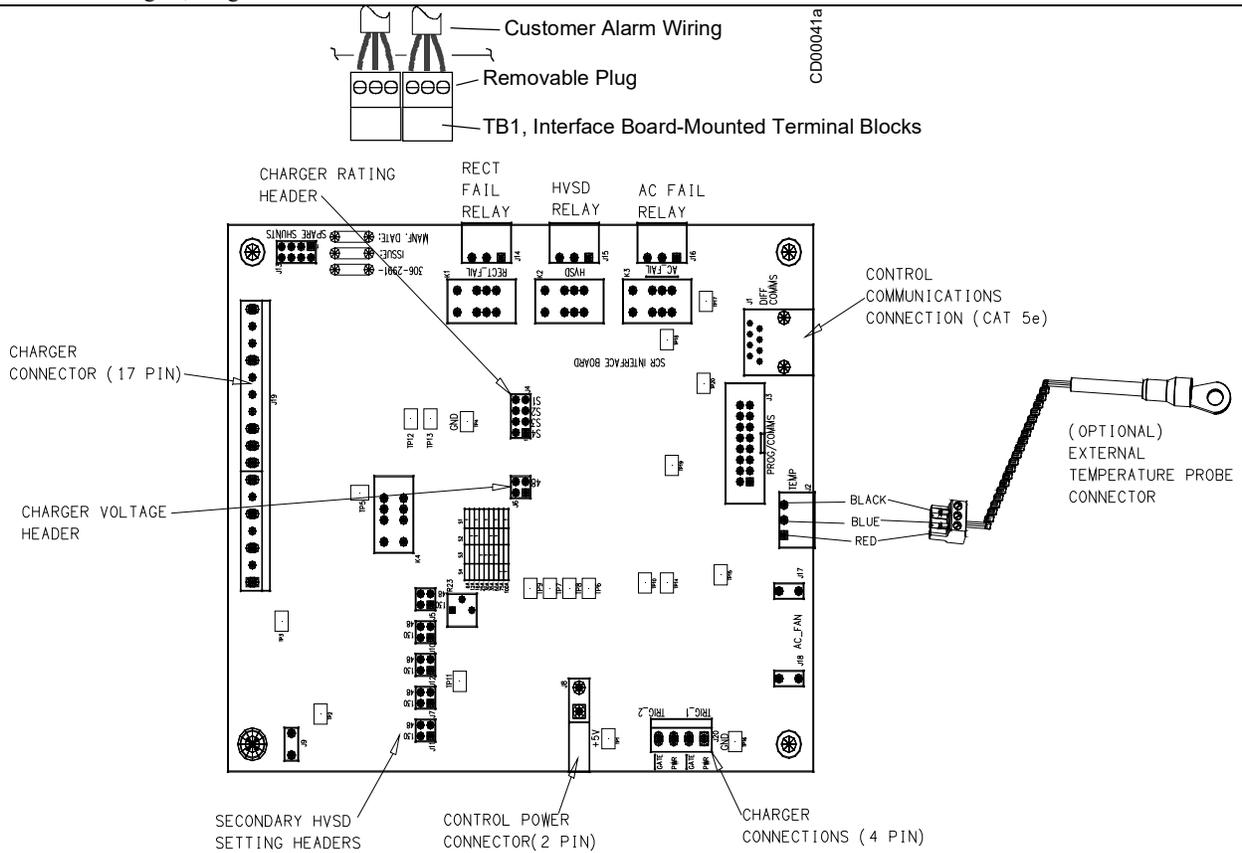

FIGURE 2-5 INTERFACE BOARD CONNECTIONS
As shown by the detail on this page and Figures 2-5 and 2-6, each relay has three connections: common, normally open, and normally closed (Form C). The normally open (NO) and normally closed (NC) labels are for an un-powered charger (i.e. all relays in a de-energized state).
2. Locate the Interface Board and Optional Relay board, if installed, on the left side of the internal panel. See Figures 2-5 and 2-6 for a view of the terminal blocks and connector labeling.
2. If not already connected, connect the probe's three wires into P2, then plug P2 into J2 on the Interface Board as shown in Figure 2-5.